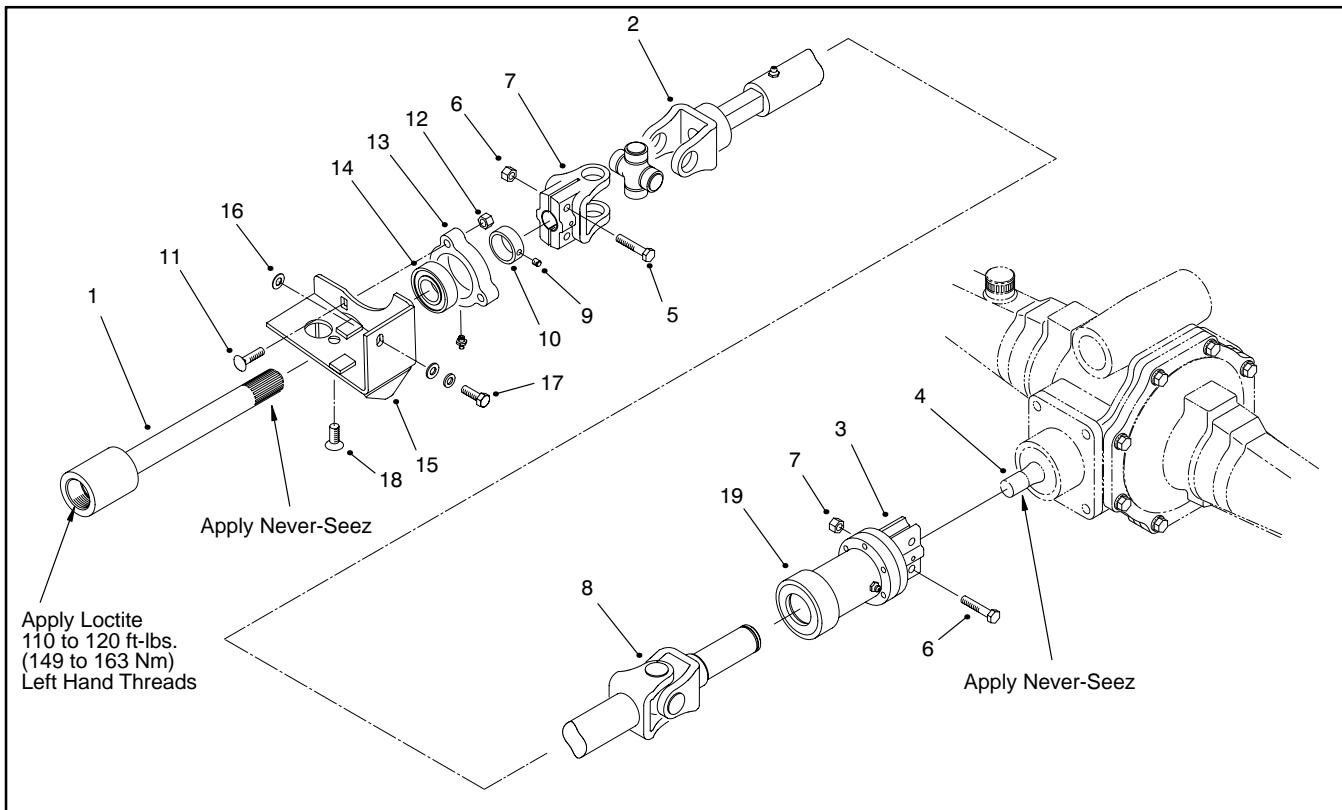

Figure 7
2. If front axle or traction shaft will be removed for repairs, loosen traction shaft before removing the drive shaft. Use an open end wrench on the square slip yoke shaft and turn the shaft in a clockwise (left hand threads) direction (Fig. 7).
5. Loosen capscrews and locknuts securing end yoke to traction shaft, and slide drive shaft assembly off traction shaft (Fig. 7).
- A. Loosen the set screws in the bearing locking collar. Use a hammer and punch to loosen the collar by rotating it in a counterclockwise direction (Fig. 7).
- B. Remove the carriage bolts and locknuts securing the bearing support to the bracket. Remove the bearing and bearing support (Fig. 7).
- D. Remove bearing bracket (Fig. 7). Record number of shims used between side of bracket and transmission.
3. Slide clutch end of drive shaft assembly onto shaft. Tighten axle coupling capscrews and locknuts (Fig. 7).
4. Slide end yoke of drive shaft assembly onto traction shaft and tighten end yoke capscrews and locknuts (Fig. 7).
- D. Tighten locking collar to traction shaft by carefully rotating it in a clockwise direction with a hammer and punch. Tighten collar set screws (Fig. 7).